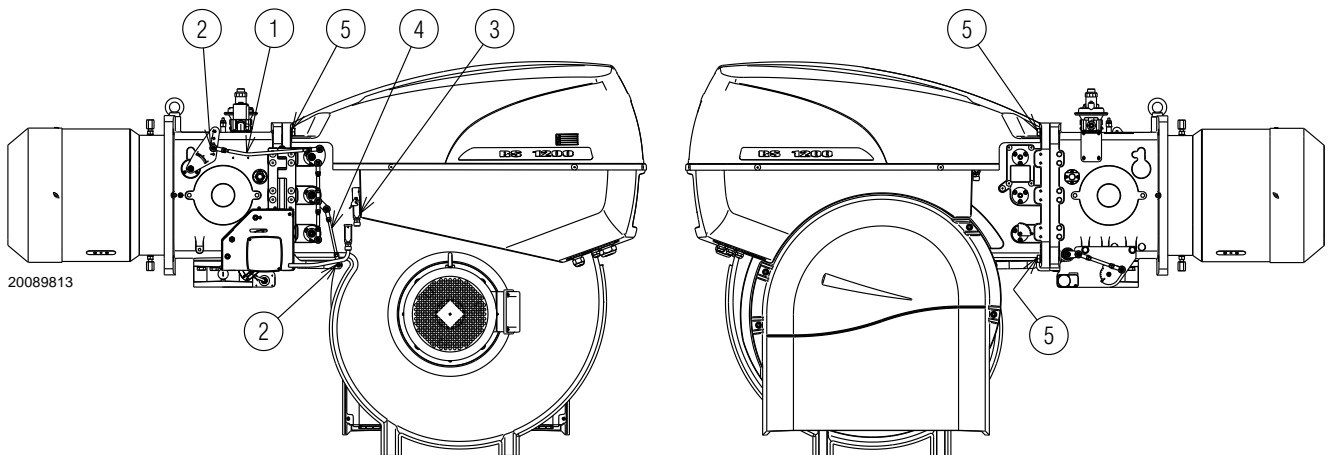

Fig. 37
- Remove the tie-rods 1) and 4)(Fig. 37) of the head movement and damper opening lever, loosening the nuts 2);